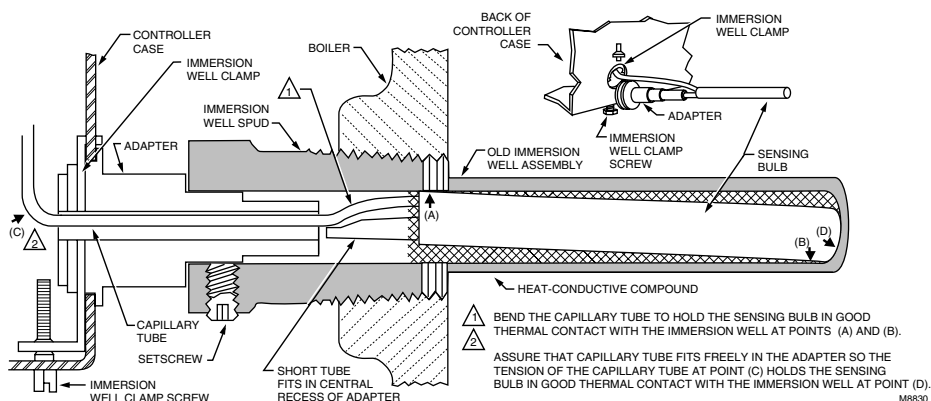

Fig. 2. Proper position of sensing bulb in immersion well, and use of well adapter in existing well.
If the well is not a snug fit on the bulb, use the heat-conductive compound (furnished with TRADELINE® models) as follows: Fold the plastic bag of compound lengthwise and twist it gently. Then snip off end of bag and work the open end of bag all the way into the well. Slowly pull the bag out while squeezing it firmly to distribute compound evenly in the well. Bend the tubing, if necessary, to hold the bulb against the bottom of the well and to hold outer end of the bulb in firm contact with the side of the well. See Fig. 2. Wipe excess compound from the outer end of the well.
2. Pull out the capillary until the bulb bottoms in the well. Place adapter (if used) around the capillary tube so it fits into the slot. See Fig. 2. Center the loop of excess capillary tubing in front of the immersion well so it cannot touch any electrical parts.
4. Insert sensing bulb into well as shown in Fig. 2. (Distribute the heat-conductive compound in the tube prior to bulb insertion.)